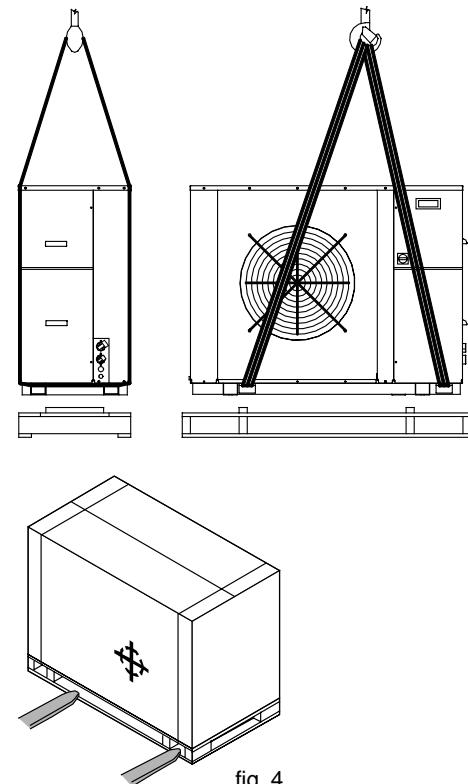

fig. 4
- Special care should be taken when moving the unit in order to avoid damage to the external structure and to the internal mechanical and electrical components (figure 4).